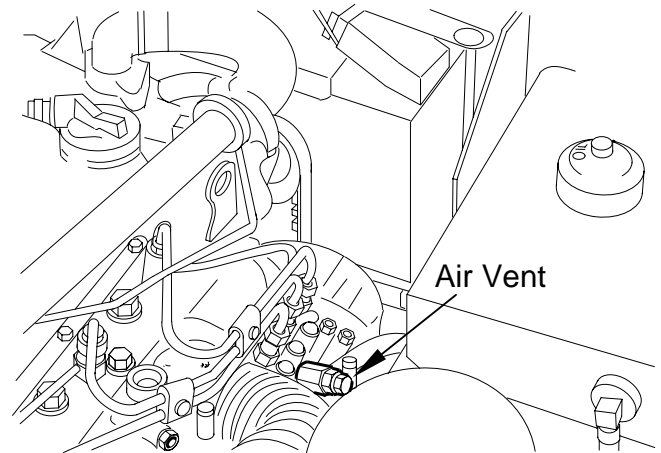

Figure 7-5 Fuel Injection Pump
2. Open the air vent on top of the fuel injection pump (Figure 7-5).